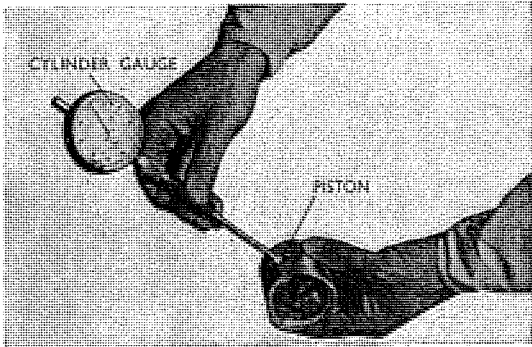

Fig. 3.99 Measuring piston pin hole
4. Measurement of piston pin hole (Refer to Fig. 3.99).